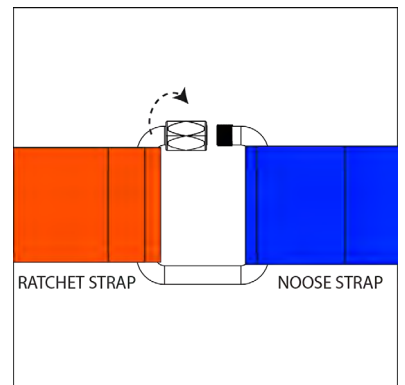

Figure 58
- Begin with the Top Rail Strap. Connect the Orange Ratchet Strap and the Blue Noose Belt Strap using the 4" Quick Link. (Fig. 58)